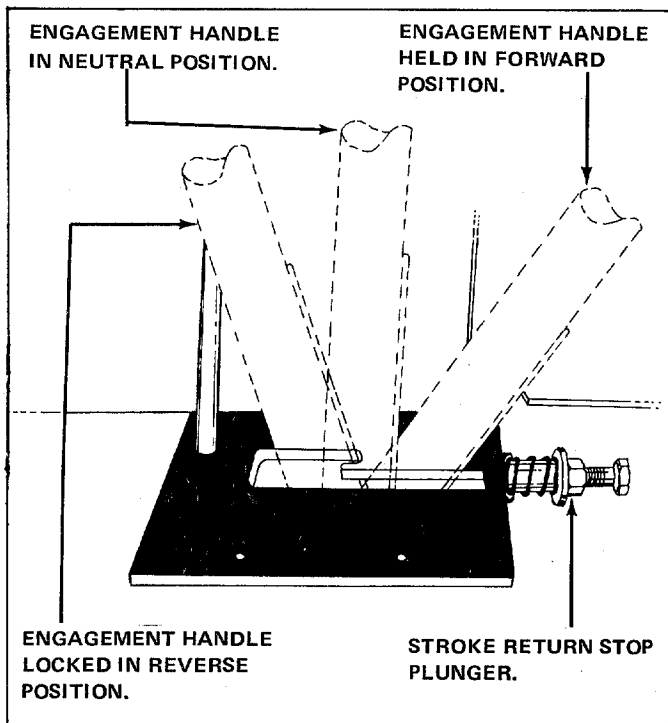

FIGURE 12
- B. Engagement handle has three positions: Forward—moves ram toward wedge. Neutral—ram stops in place. Reverse—ram returns. See figure 12.